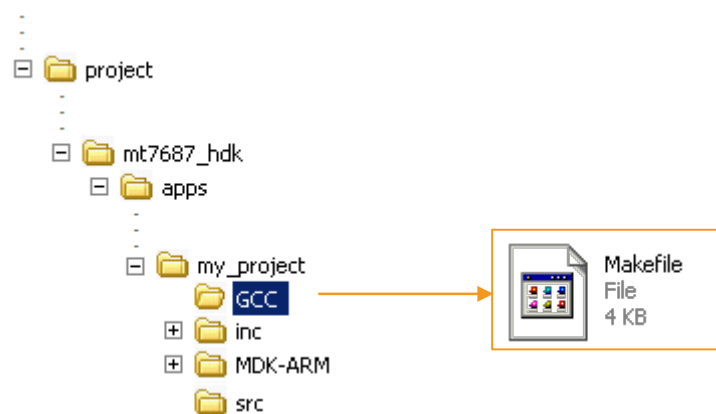

Figure 20. Modify the Makefile under the GCC folder of my_project
- 2) Modify the following settings defined in the `<sdk_root>/project/mt7687_hdk/apps/my_project/GCC/Makefile` under the GCC folder (see Figure 20) `my_project`, as shown below: